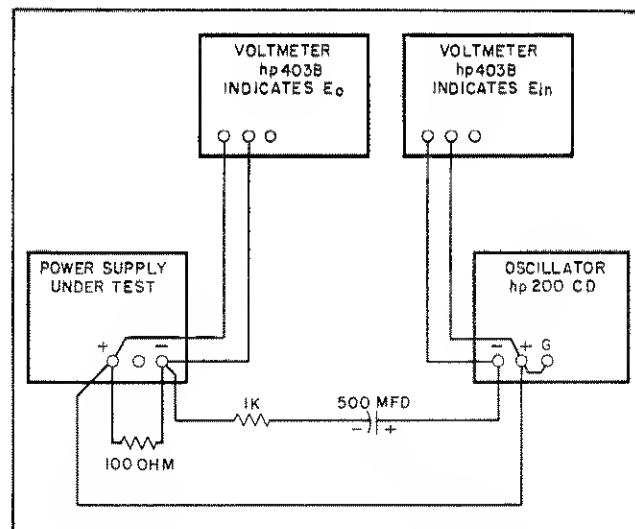

Figure 5-11. Output Impedance, Test Setup
- a. Connect test setup as shown in Figure 5-11.